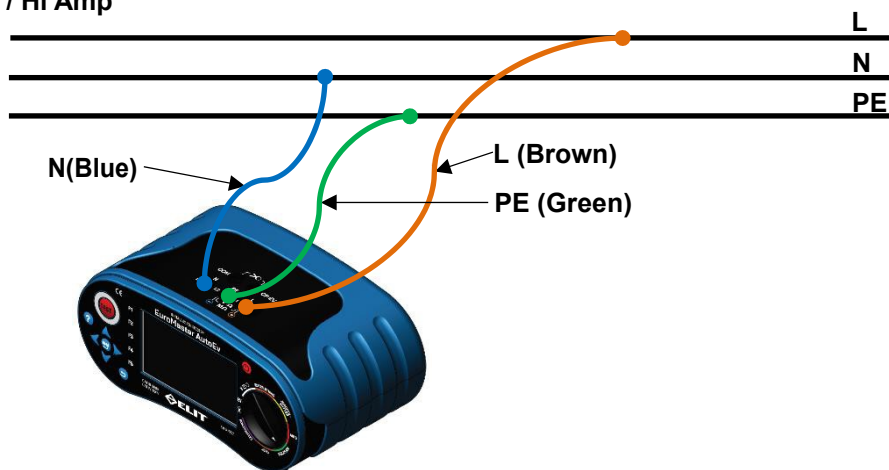

Figure 6.5.4 Loop / Hi Amp Connection.
- III. Connect the test leads as shown in Figure 6.5.4.